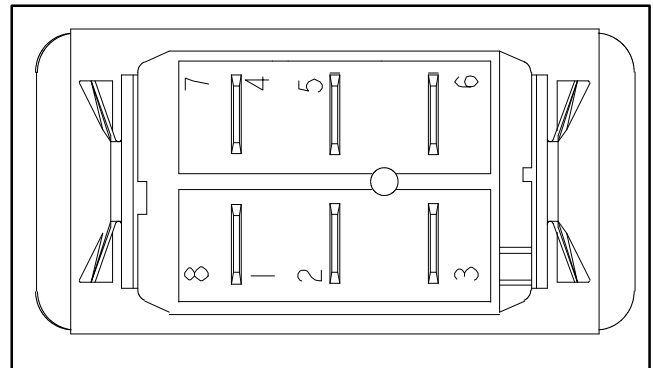

Figure 42
4. With the use of a multimeter (ohms setting), test the switch functions to determine if continuity exists between the various terminals for each switch position. Check the continuity between the switch terminals. The windshield wiper/washer switch terminals are identified in Figure 42 and the circuitry of the switch is shown in below table: